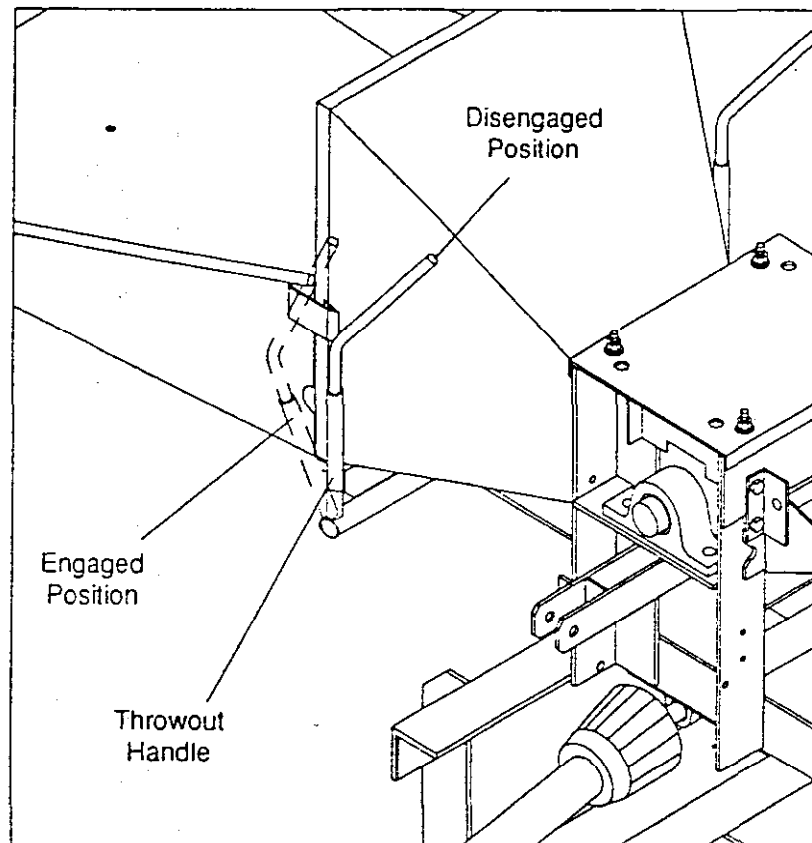

Figure 1
THROWOUT HANDLE (Fig. 1)
3. Place the Throwout handle in the disengaged position. See Fig. 1 in the Control section of this manual.